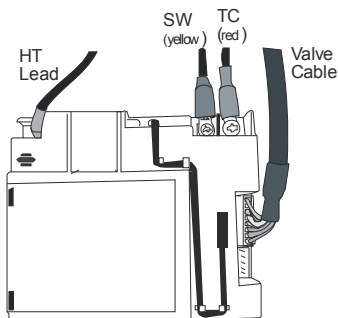

Figure 65
2. Gently pull out the HT lead and the valve cable from the receiver (see **Figure 65**).